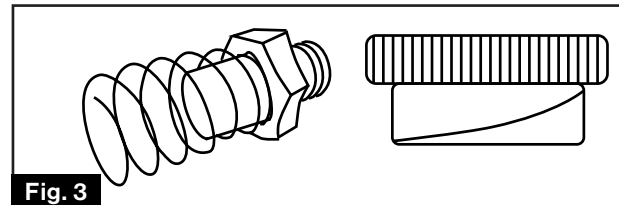

Fig. 3
- Remove the retainer pin and spring. (Fig. 3)